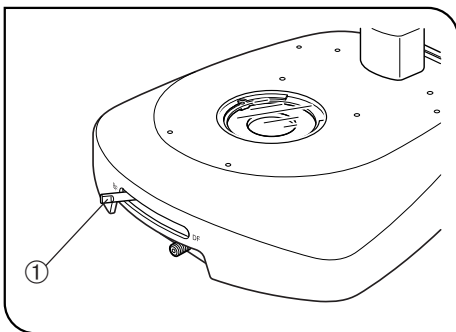

Fig. 9
**7 Brightfield/Darkfield Selector Lever** ILLD (Fig. 9)
- Move the lever ① all the way to the “BF” position until it is stopped. This engages the LBD filter in the light path.
- Move the lever ① all the way to the “DF” position until it is stopped.